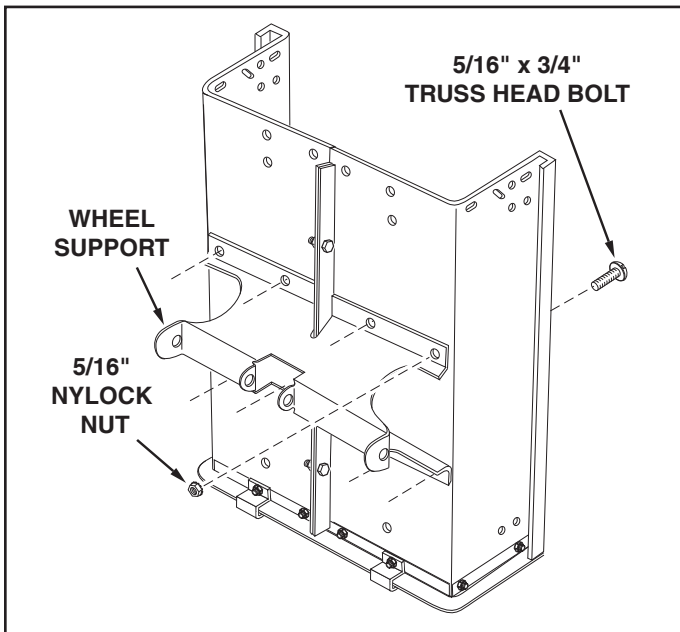

FIGURE 4
- Assemble the wheel support to the bottom of the cart using eight 5/16" x 3/4" truss head bolts and 5/16" nylock nuts as shown in figure 4. Heads of bolts go on the inside of cart. **Tighten.**